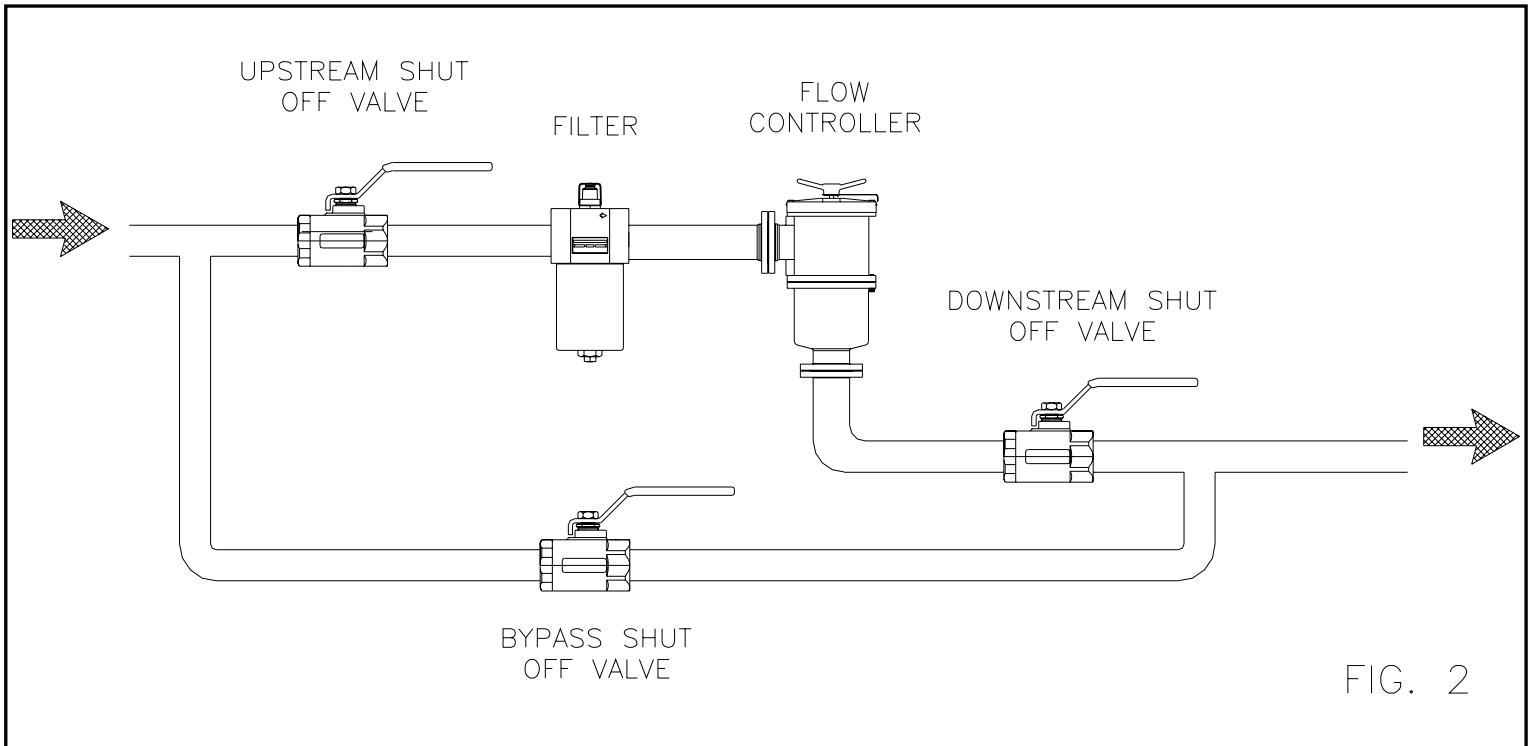

FIG. 2
2. Upstream and downstream shutoff valves and a bypass valve should be installed so that the controller may be opened for inspection and cleaning without requiring complete system shutdown. (See fig. 2)
2. It is not necessary to remove the controller from the line to clean. If installation includes proper shutoff and bypass valves, operate these and take controller off stream or control. (See fig. 2)
2. To replace the thrust washer and O-ring, take the controller off stream or control (see fig. 2). Remove the bonnet; then remove the roll pin in the adjuster bar, and lift off the adjuster bar assembly. The adjuster shaft can now be removed by pulling it through the bonnet from the inside.